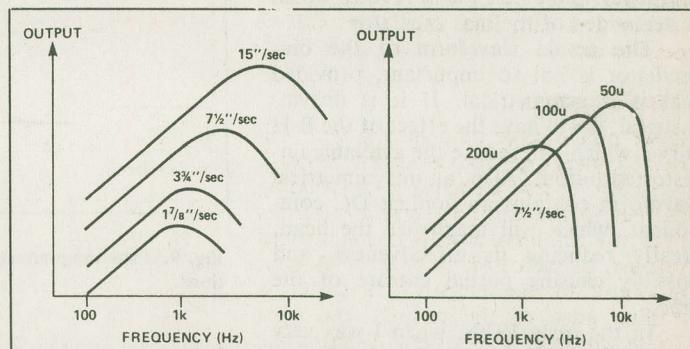

Fig. 7. (left) Output level versus frequency response for different tape speeds.
already seen). Below the maximum replay frequency, the HF response is very dependent on gap width, as I have shown in Fig. 7. Unfortunately, the output from the head also falls as the head gap-width is reduced, partly because there is less magnetic material in the gap, and partly because of the magnetic shunt effect, due to the proximity of the two sides of the head gap.
**Head alignment:** The way in which the width of the replay head affects the HF response of the recorder has been shown above (Fig.7). This presumes that the head is accurately aligned so that its gap is at right-angles to the direction of travel of